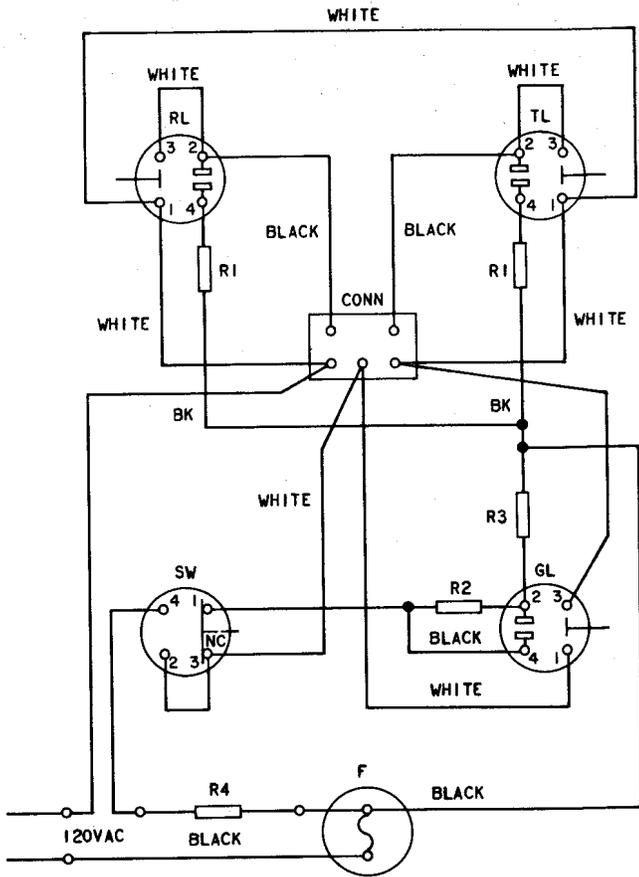
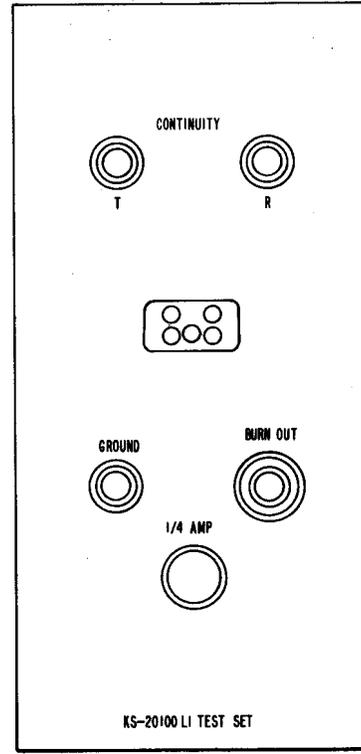
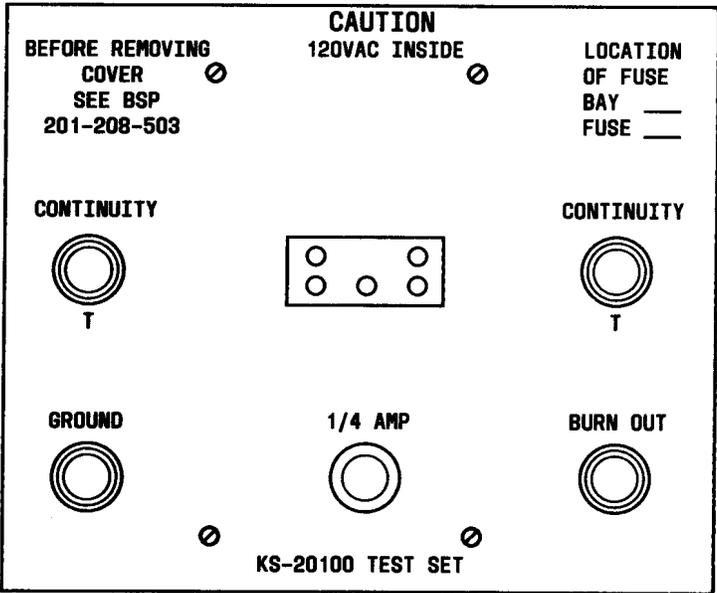

Fig. 1—KS-20100 Test Set Schematic Diagram
Fig. 2—KS-20100 L1 Test Set
Fig. 3—KS-20100, L2 and L5 Test Set
- (c) Change Fig. 3 to show stamping on front plate of KS-20100 test set
1.05 The circuitry of the KS-20100 L1, L2 (Mfr Disc) and L5 test sets is identical (Fig. 1). The L1 test set is an integral component of modular protector frames (Fig. 2). The L2 test set consists of an L5 (Fig. 3) test set assembled in a conduit box for wall mounting.